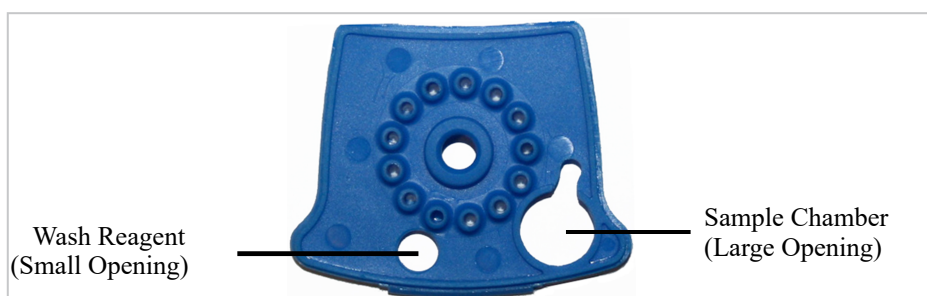

Figure 1 Xpert BCR-ABL Ultra Cartridge (Top View)
3. Open the cartridge by lifting the cartridge lid and transfer the entire contents of the Wash Reagent (1) ampoule to the Wash Reagent Chamber (with small opening). See Figure 1.
4. Pipette the entire contents of the prepared sample into the Sample Chamber (large opening). See Figure 1.
14. To the new conical tube containing the external control sample, add 1.5 mL of retained Lysis Reagent (LY) from step 7.
19. Open the cartridge by lifting the cartridge lid and transfer the entire contents of the Wash Reagent (1) ampoule to the Wash Reagent chamber (with small opening). See Figure 1.
20. Pipette the entire contents of the prepared external control into the sample chamber (large opening). See Figure 1.